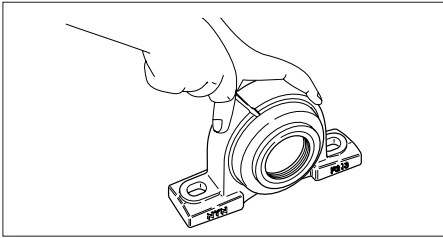

Fig.8.12
- 1) Remove the steel plate cover from the bearing unit. The cover can be easily removed with hands. If it cannot be easily removed, use a screwdriver as shown in **Fig.8.12**.